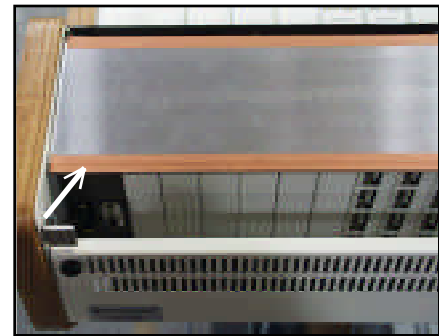

Figure 1. Shield Panel.
- Remove the shield panel's tape (Figure 1), being careful to avoid damage to the shield tape.
The supplied hand crimping tool (PALADIN model PA1645, W/S#850067) is used for all I/O wiring connections to and from the console. It is to be used with the supplied loose pin (figure 1) intended for 18"-24" gauge wire.